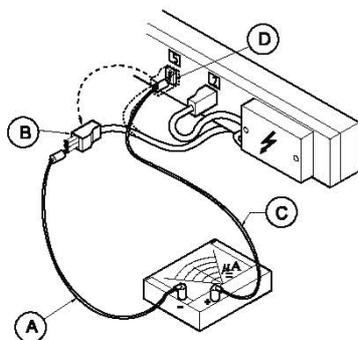

Fig. 21 Measuring ionisation
-  e) Remove the RH upper side panel and within the control panel remove the test link for the flame detection (see wiring diagram) and connect a A-meter (0 - 50 A =) in series with the flame detection circuit (see fig. 21). While measuring ionisation the main burner should stay switched off. To do this, disconnect the main gas valve by breaking the electrical connection by removing the plug (4a). Remove the ionisation plug (5). Connect the black wire (-) (A) of the A-meter with the lowest contact in the plug (B) (see fig. 21). Connect the red wire (+) (C) of the A-meter with the lowest contact in the ionisation socket (D). The ionisation of the pilot burner must show a minimum of 5 A during 10 seconds after which the burner falls into flame detection lockout. Wire the main gas valve back to its originally conditions. Repeat the test by starting the boiler to maximum operation. Check that the A-meter reads at least 5 A after 10 seconds.